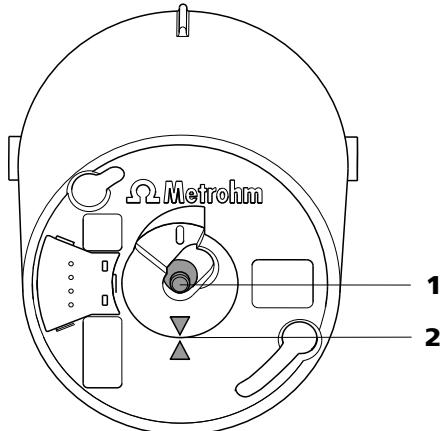

Figure 14 807 Dosing Unit from above
- If necessary, rotate the centering tube(14-1) by hand until they are in the correct position (see *Figure 14, page 22*).